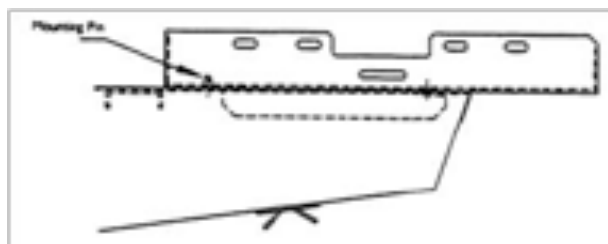

Figure 3a
2. Orient the SmartBox® cradle (see figure 3a).